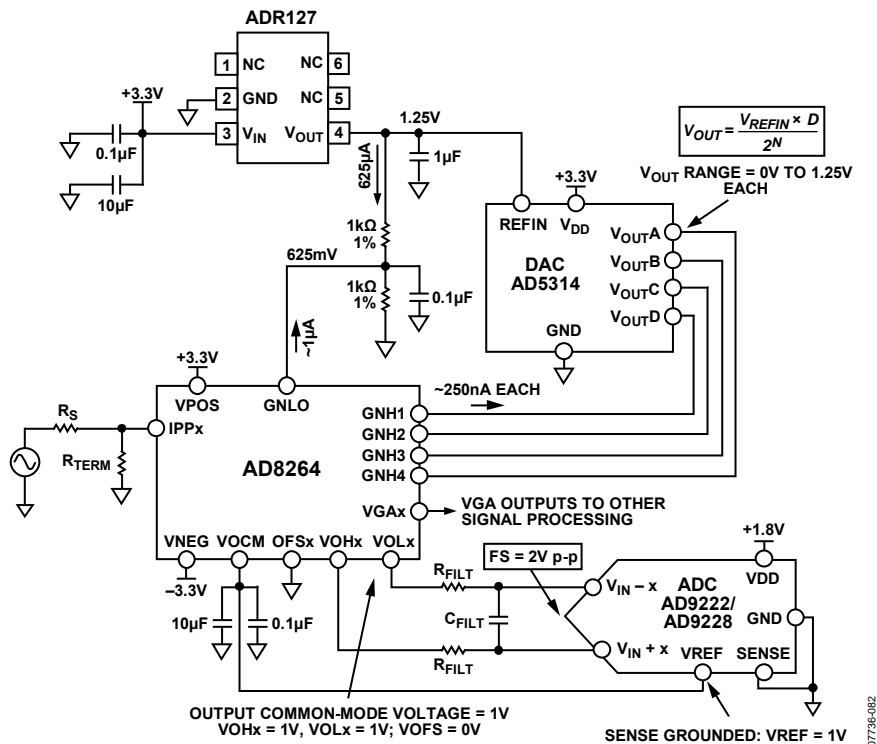
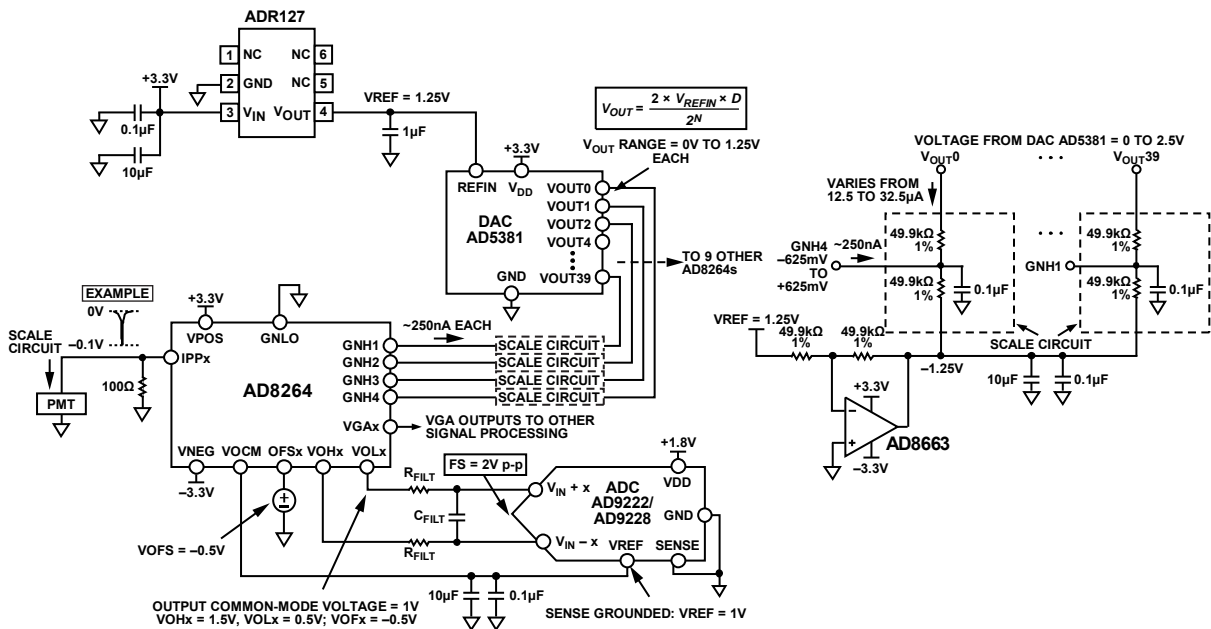

Figure 112. Application Concept of the AD8264 with the AD5314 10-Bit DAC and the AD9222/AD9228 12-Bit ADC
Figure 113. Concept Application of AD8264 with 40-Channel AD5381 12-Bit, 3 V DAC and AD9222/AD9228 12-Bit ADC
The AD8264 is particularly well suited for use in the analog front end of medical PET imaging systems. Figure 112 shows how to use the AD8264 with the AD5314 (a 4-channel, 10-bit DAC) and the AD9222/AD9228 (an octal or quad, 12-bit ADC, respectively). The DAC sets the gain of the AD8264. Note that the full gain span of 24 dB is achieved with this setup because the gain control input range of the AD8264 is very close to 1.25 V. The GNLO pin must offset by $1.25/2 = 625\text{ mV}$ because the gain control input is bipolar around the voltage applied at GNLO. This is done with two 1 kΩ, 1% resistors. The approximately 1 μA of bias current flowing from the GNLO pin does not contribute a significant error because the basic gain error of the AD8264 is the limiting factor.
Figure 112 also includes the DAC output equation, which indicates that the output can vary between 0 V and $V_{REF} = 1.25\text{ V}$.
The single-ended-to-differential amplifier of the AD8264 amplifies the VGA output signal by 6 dB and can provide the required dc bias of the AD9222/AD9228, as shown in Figure 112. The ADC is connected with the default internal reference because the SENSE pin is grounded. With this connection, the AD9222/AD9228 VREF pin is an output that provides 1 V; this is then connected to the VOCM input of the AD8264, which sets the output common-mode voltage of the VOHx and VOLx pins to 1 V. This voltage is very close to the recommended optimal value of $V_{DD}/2 = 0.9\text{ V}$. With this configuration, the ADC inputs are set to a full-scale (FS) of 2 V p-p.
The dc connected concept example in Figure 113 is an application with the 40-channel AD5381, 3 V, 12-bit DAC. The main difference between this example and Figure 112 is that, for the same ADR127 1.25 V reference, the full-scale output of the DAC is from 0 V to $2 \times V_{REFIN} = 2.5$ V. Two options for gain control include the following:
- Use the same circuit as in Figure 112 but use only half the DAC output voltage from 0 V to 1.25 V. This is the simplest solution, requiring the fewest extra components. Note that the overall gain resolution increases by one bit to 11 bits over the 10-bit AD5314.
- Ground GNLO and scale the DAC output so that the GNHx inputs vary from -0.652 V to $+0.625$ V. Figure 113 shows a possible circuit implementation using a divider between the DAC output and a -1.25 V reference.
Figure 113 shows how the AD8264 is connected in a PET application. The PMT generates a negative-going current pulse that results in a voltage pulse at the preamplifier input and a differential output pulse on VOLx and VOHx.
A convenient method of verifying and customizing the signal chains shown in Figure 112 and Figure 113 is by ordering the corresponding evaluation boards available on www.analog.com. The AD8264-EVALZ is a platform through which the user can quickly become familiar with the features and performance capabilities of the AD8264. See the Evaluation Board section for more information.